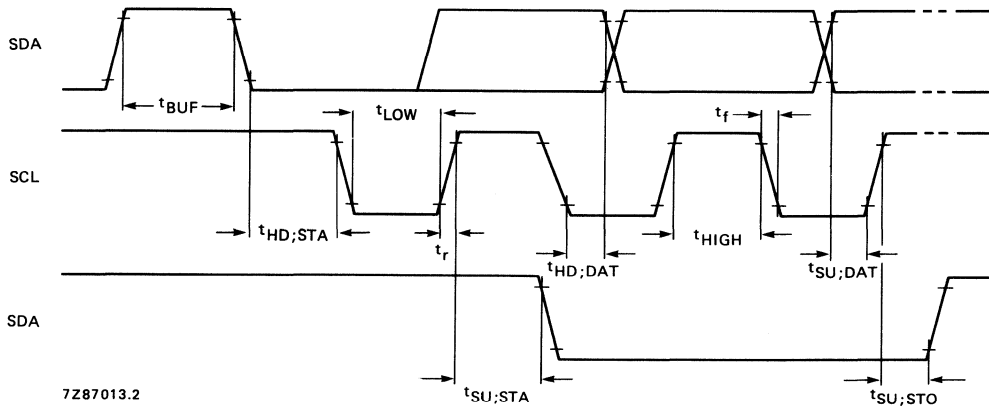

Fig. 3 I2C-bus timing.
20. For details of I2C-bus timings see Fig. 3; timings are referred to  $V_{IH} = 3.0$  V and  $V_{IL} = 1.5$  V.